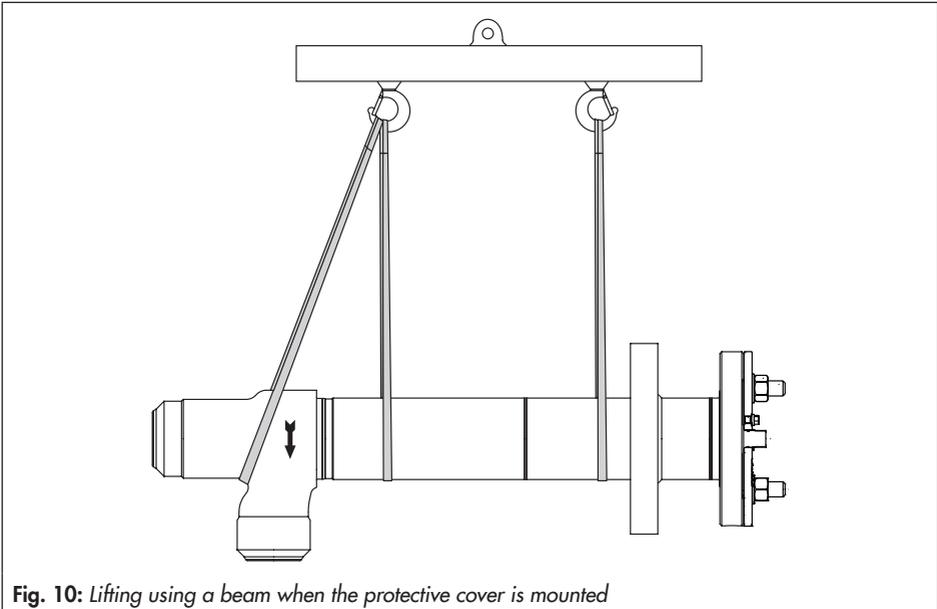

Fig. 10: Lifting using a beam when the protective cover is mounted
1. Attach two slings to the cryogenic extension bonnet and to the rigging equipment (e.g. hook) of the crane or forklift (see Fig. 10).